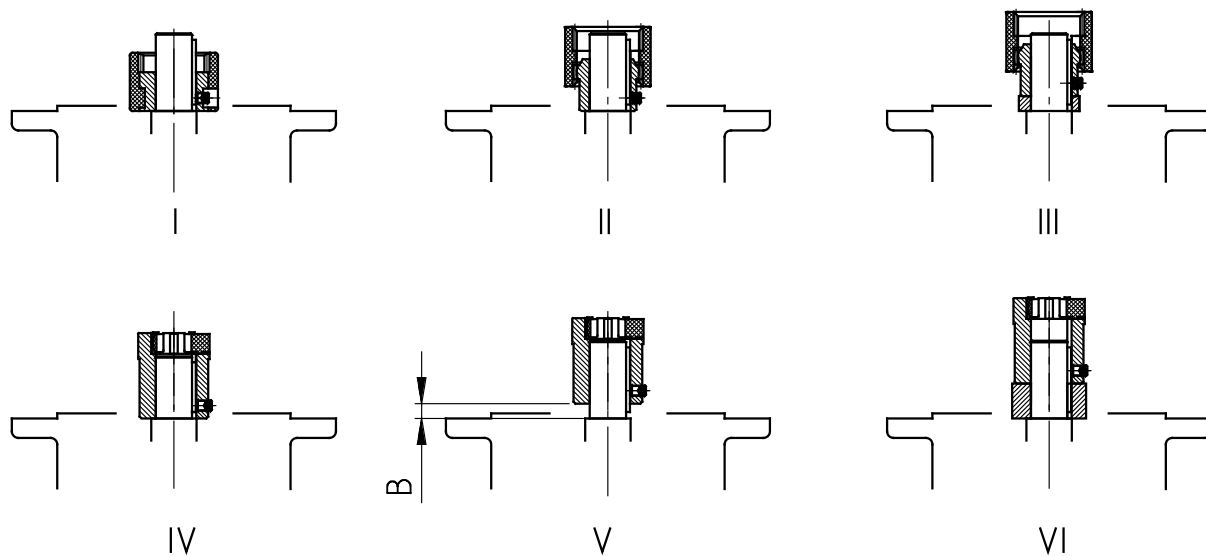

Figure 17: Fitting the coupling onto the motor shaft - various types of coupling
3. Tighten the coupling sleeve on the motor shaft in accordance with the motor manufacturer's instructions until it touches the collar. With motor sizes 90, 160, 180 and 225, any spacer bushes must be positioned between the coupling sleeve and the collar. With standard helical gear units, dimension B between the coupling sleeve and the collar must be observed (see Figure 17). Certain NEMA adapters require adjustment of the coupling in accordance with the specifications indicated on the adhesive plate.